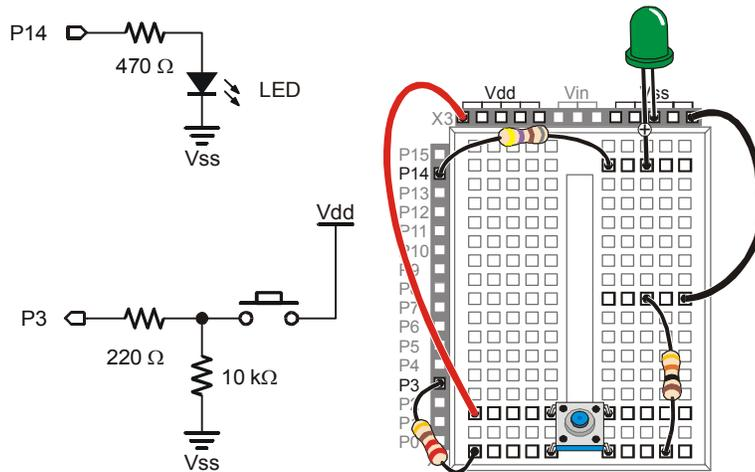

Figure 3-11
Figure 3-11 shows the pushbutton circuit used in the activity you just finished along with the LED circuit used in Chapter #2, Activity #2.
- ✓ Build the circuit shown in Figure 3-11.